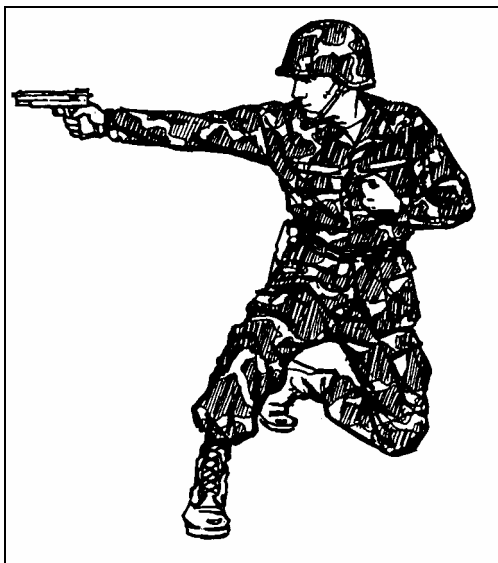

Figure 2-24. Traversing to the new right side, kneeling.
(5) *Traversing to the New Right Side* (Figure 2-24): The upper body continues to the right. Both elbows are straight until the body reaches a point where it cannot go further comfortably. Eventually, the left hand must be released from the fist grip, and the firer is shooting to the right with the one-hand grip.